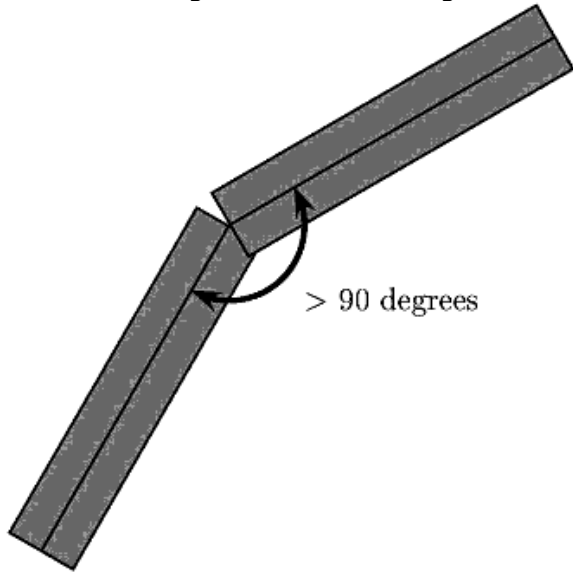

Figure 7 90-degree Angle Not Sufficient
- As shown in Figure 7, the angle between segments always must be greater than 90 degrees.